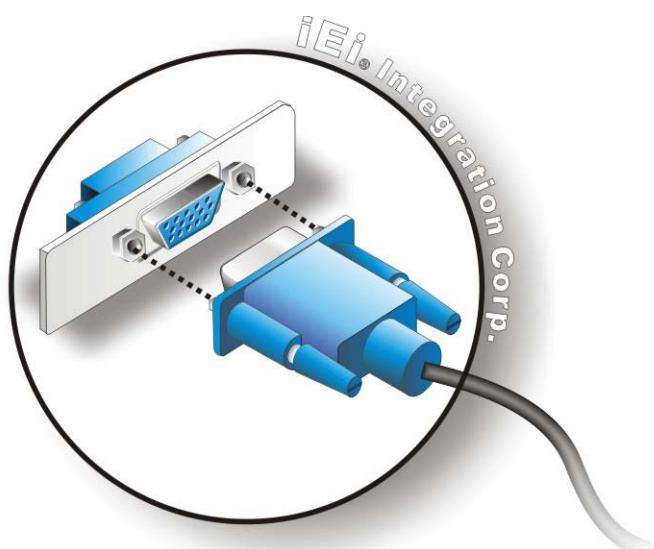

Figure 4-13: VGA Connector
Step 3: Insert the VGA connector Once the connectors are properly aligned with the insert the male connector from the VGA screen into the female connector on the KINO-DQM871. See Figure 4-13.